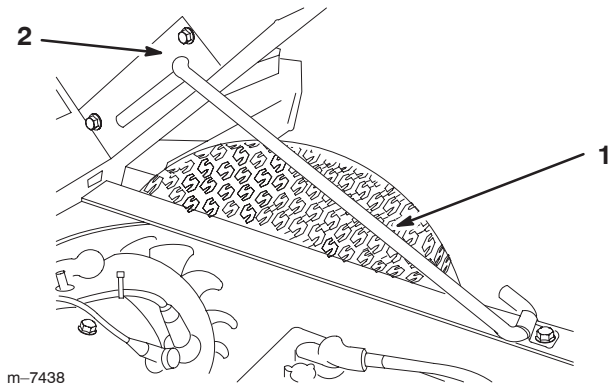

Figure 12
2. Pull the prop rod into the detent slot, securing the box (Fig. 12).